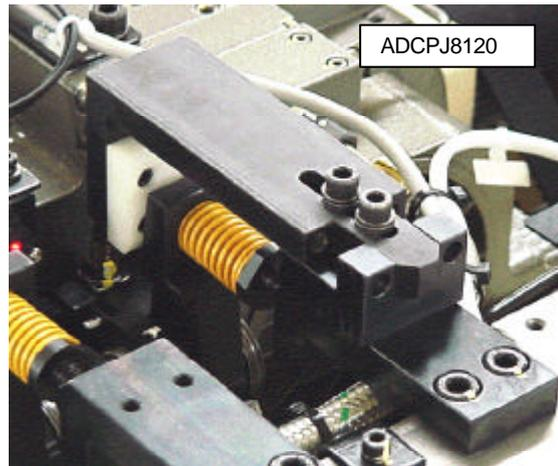

Figure 13
1. The camera skew adjustment is performed in order to align the camera with the X- and the Y- axes. This is vital for determining accurate angular compensation at station 8 (FQ).
3. With the cam at 0 degrees, install the “cam lever spring lock jig” at station 8 in the cam box, as shown in figure 13.